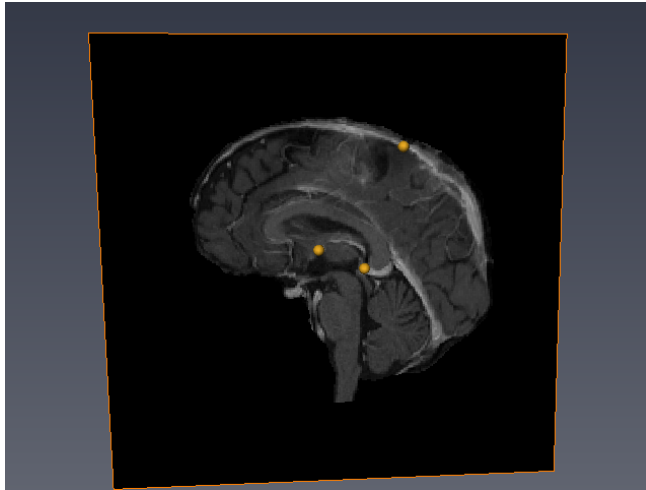

Figure 16.3: Rendering of a yz-slice through the brain with the selected landmark locations indicated by three golden spheres.
- Click on one of the landmark buttons in the *Select* port of the *Convert Talairach Properties* and make a new selection on the slices through the brain (Fig. 16.3).